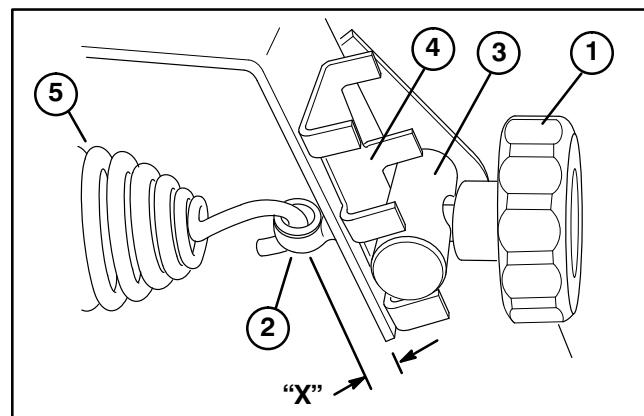

Figure 33
3. Loosely secure anchor bolt and spring to upper or lower hole in frame bracket (Fig. 33) with round spacer and counterbalance adjustment knob positioning as follows:
4. To tension rear counterbalance spring, rotate counterbalance knob (Fig. 33) until distance between center of anchor bolt opening and inside of frame "X" is as follows: